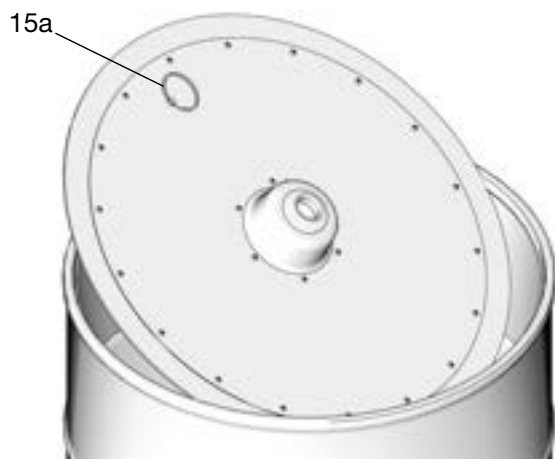

FIG. 25
4. If this is an existing installation, reach into the drum and pull up on the follow plate ring (15a) to remove the follow plate (15), then place the follow plate on clean paper, cardboard, or clean shop rags. Do not place on shop floor (FIG. 25).